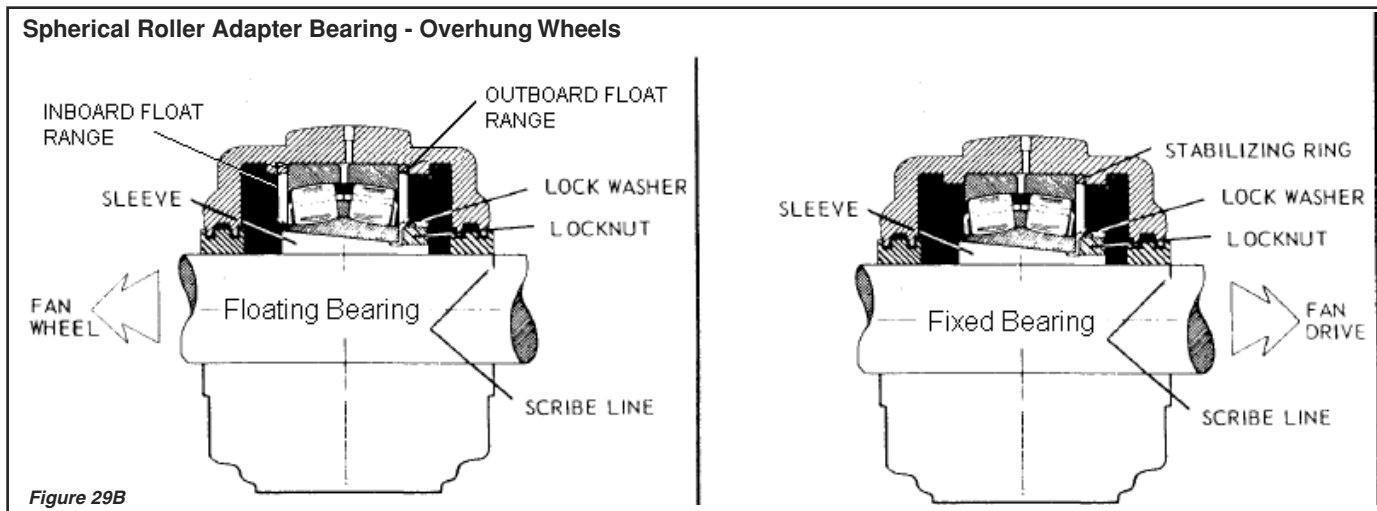

Figure 29B
4. Assembly on Shaft - Slide steel seal rings, if used, bearing, adapter and accessory parts on the shaft in the right order. See Figure 25. Also see Figure 29A, Page 21 for A/3 and A/7 (for center hung wheels), Figure 29B, Page 23 for A/1, A/8 and A/9 (for overhung wheels). Apply mixture of white lead and oil or a powdered dry lubricant to tapered surface and threads of adapter sleeve and to the inside (small) face of the locknut.